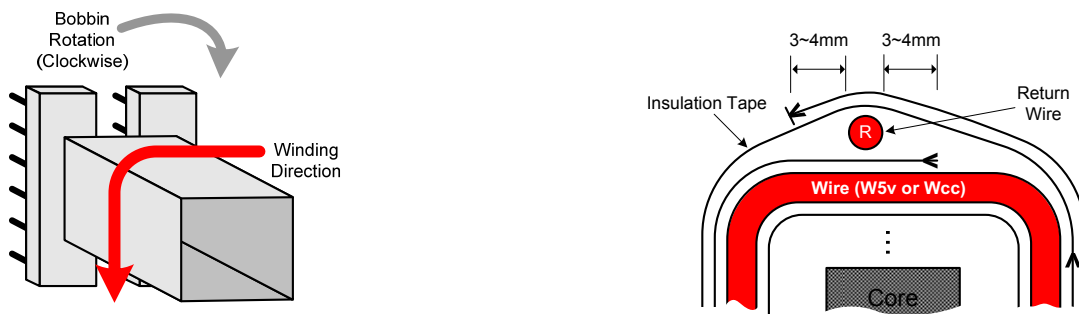
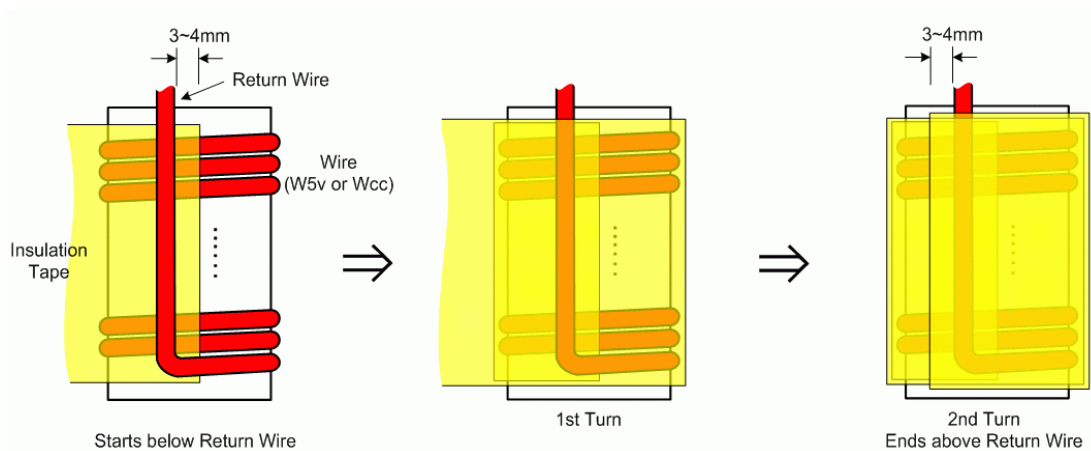

Figure 27. Winding Direction for Each Winding (Left) and Cross-Sectional View for W5v / Wcc Insulation Taping (Right)
Figure 28. Details on W5v / Wcc Insulation Taping
11. See Figure 27 (right) and Figure 28 for details.